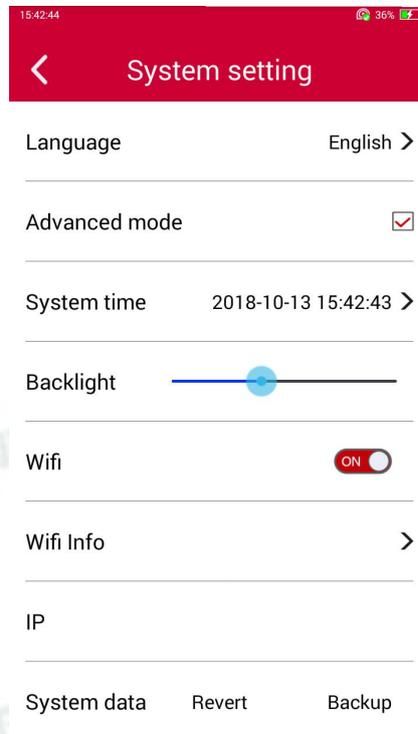

Fig 4.25 System setting
Click "System Setting" to enter the system setting interface (as is shown in Fig 4.25), user can set the language, advanced mode, date, time, black light and other operations.
- 13) Advanced mode: there are common mode and advanced mode. The default setting is common mode. The advanced mode need to be selected in Fig. 4.25. when selecting the advanced mode, user need to type the password of "1234" correctly and "spectral calibration" and "illumination calibration" will be added in the setting menu. The advanced mode is mainly used for spectral calibration and illumination calibration and the related information is shown in Chapter 4.8 and Chapter 4.9.
- 18) System data: SD card built in the instrument saves dedicated calibration data files. The content in file will be modified in the operation of spectral calibration, zero correction. The system data has one key backup and one key restore function, and has backup data before leaving the factory (the name is Factory data). Users can back up the system data files on their own one button: click "backup", enter the name and confirm, then the backup data files will be saved in the SD card. In the advanced mode, the "restore" button will appear on the right side of the Backup button (as shown in Fig 4.25), and click the backup file name to complete the restore operation (as shown in Fig 4.27). The backup data or the backup data generated by the user can be selected when the Backup button is restored.